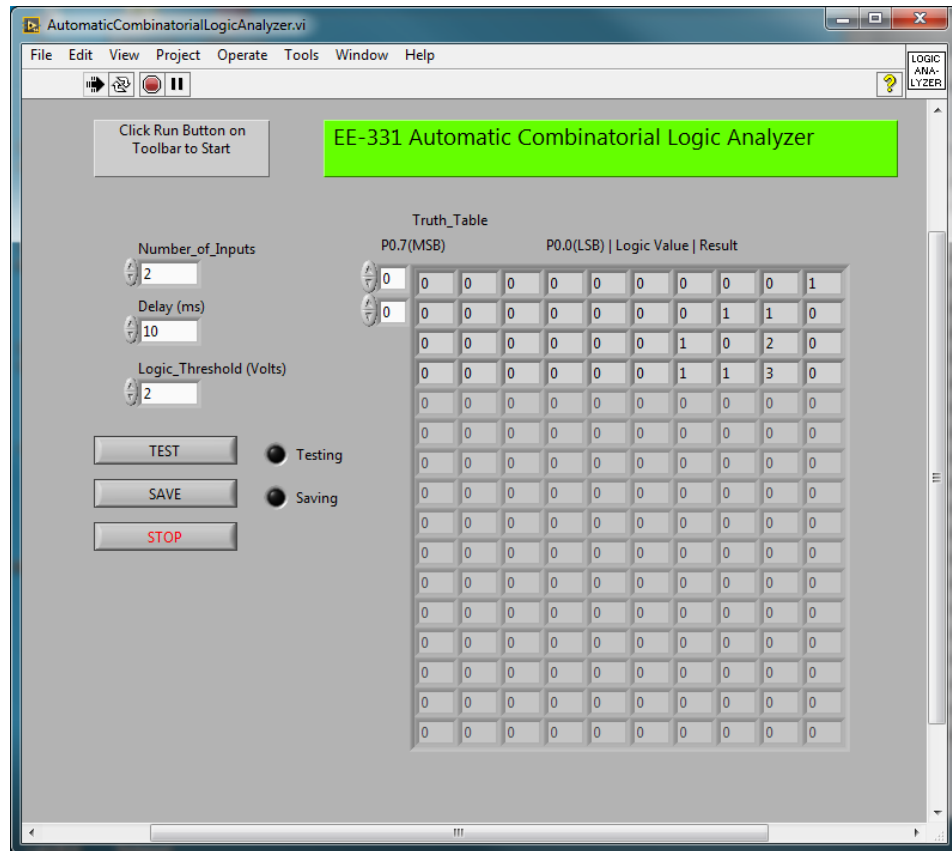

Figure E5.3a
- Set-Up** Launch LabVIEW, if it is not already running, and open the AutomaticCombinatorialLogicAnalyzer.vi. The front panel should appear as shown in Fig. E5.3a below.
This instrument performs the same tests as the manual logic analyzer of Procedure 2, but it runs through all of the possible digital test patterns automatically and records the results in its own Truth_Table which is displayed on the front panel. The Number_of_Inputs (N) is set to be 1 to 8, from which all 2^N possible logic patterns will be tested. The Delay (ms) is the amount of time that the instruments waits between sending a new digital test pattern and reading the analog input from the circuit under test (CKTUT) output. Logic_Threshold (Volts) is again the voltage level which determines whether the analog input will be interpreted as a logic “0” or “1”. The Truth_Table shown in Fig. E5.3a has 10 columns. The left-most eight columns show the individual bit states of the test pattern and the ninth column shows the equivalent Logic_Value as an integer. The Logic_Result appears in
Measurement-3a Click the run button on the toolbar to start the logic analyzer. Enter 2 for the Number_of_Inputs, a Delay of 10 ms, and a Logic_Threshold of 2.0 Volts. Click the TEST button, and the VI should return with the Truth_Table shown in Fig. E5.3a. You can record this Truth_Table by next clicking on the SAVE button. This will open a window which will allow you to specify the filename and location of an Excel spreadsheet file. The spreadsheet file will be filled with a truthtable identical to that shown on the front panel of the VI.